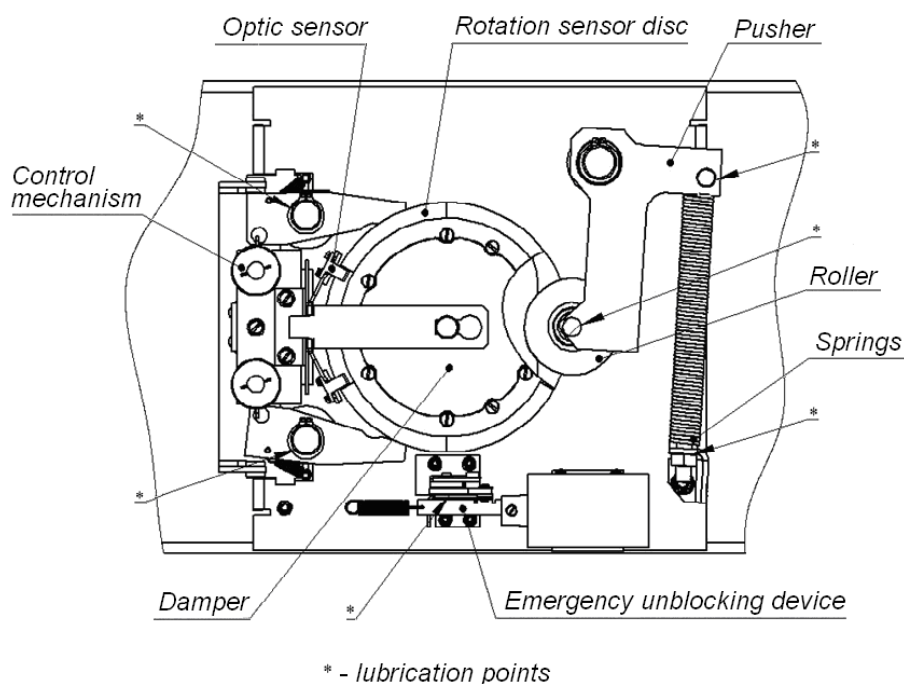

Figure 16 – Interior components of the turnstile mechanism
4. Inspect the resetting mechanism (a pusher, springs and a roller), optic sensors and a damper (Ref. Fig. 16).
6. Lubricate with machine oil (lubrication points are marked in Fig. 16):